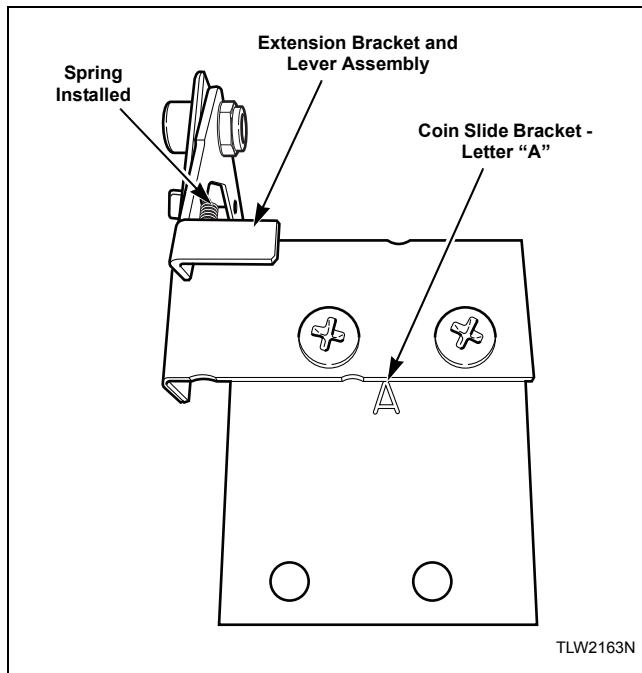

Figure 30
5. Install extension bracket and lever assembly onto coin slide bracket using two screws and locknuts. Refer to *Figure 30*.
IMPORTANT: Install coin slide bracket with side marked “A” facing up and toward extension bracket and lever assembly. Refer to *Figure 30*.